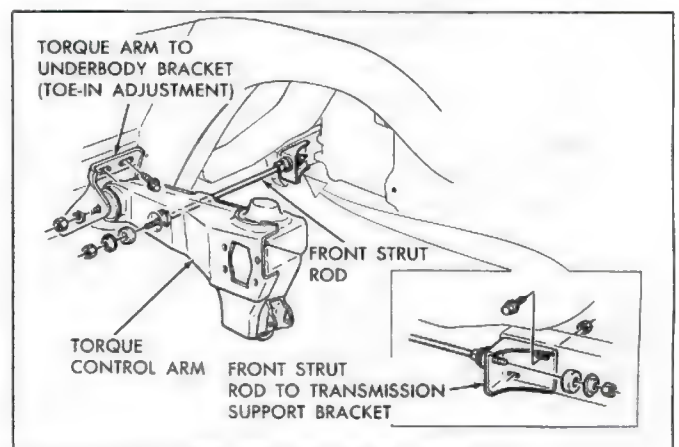

Fig. 77—Front Strut Rod Attachment
2. Disconnect strut rod bracket at transmission support by removing the retaining nuts (fig. 77).